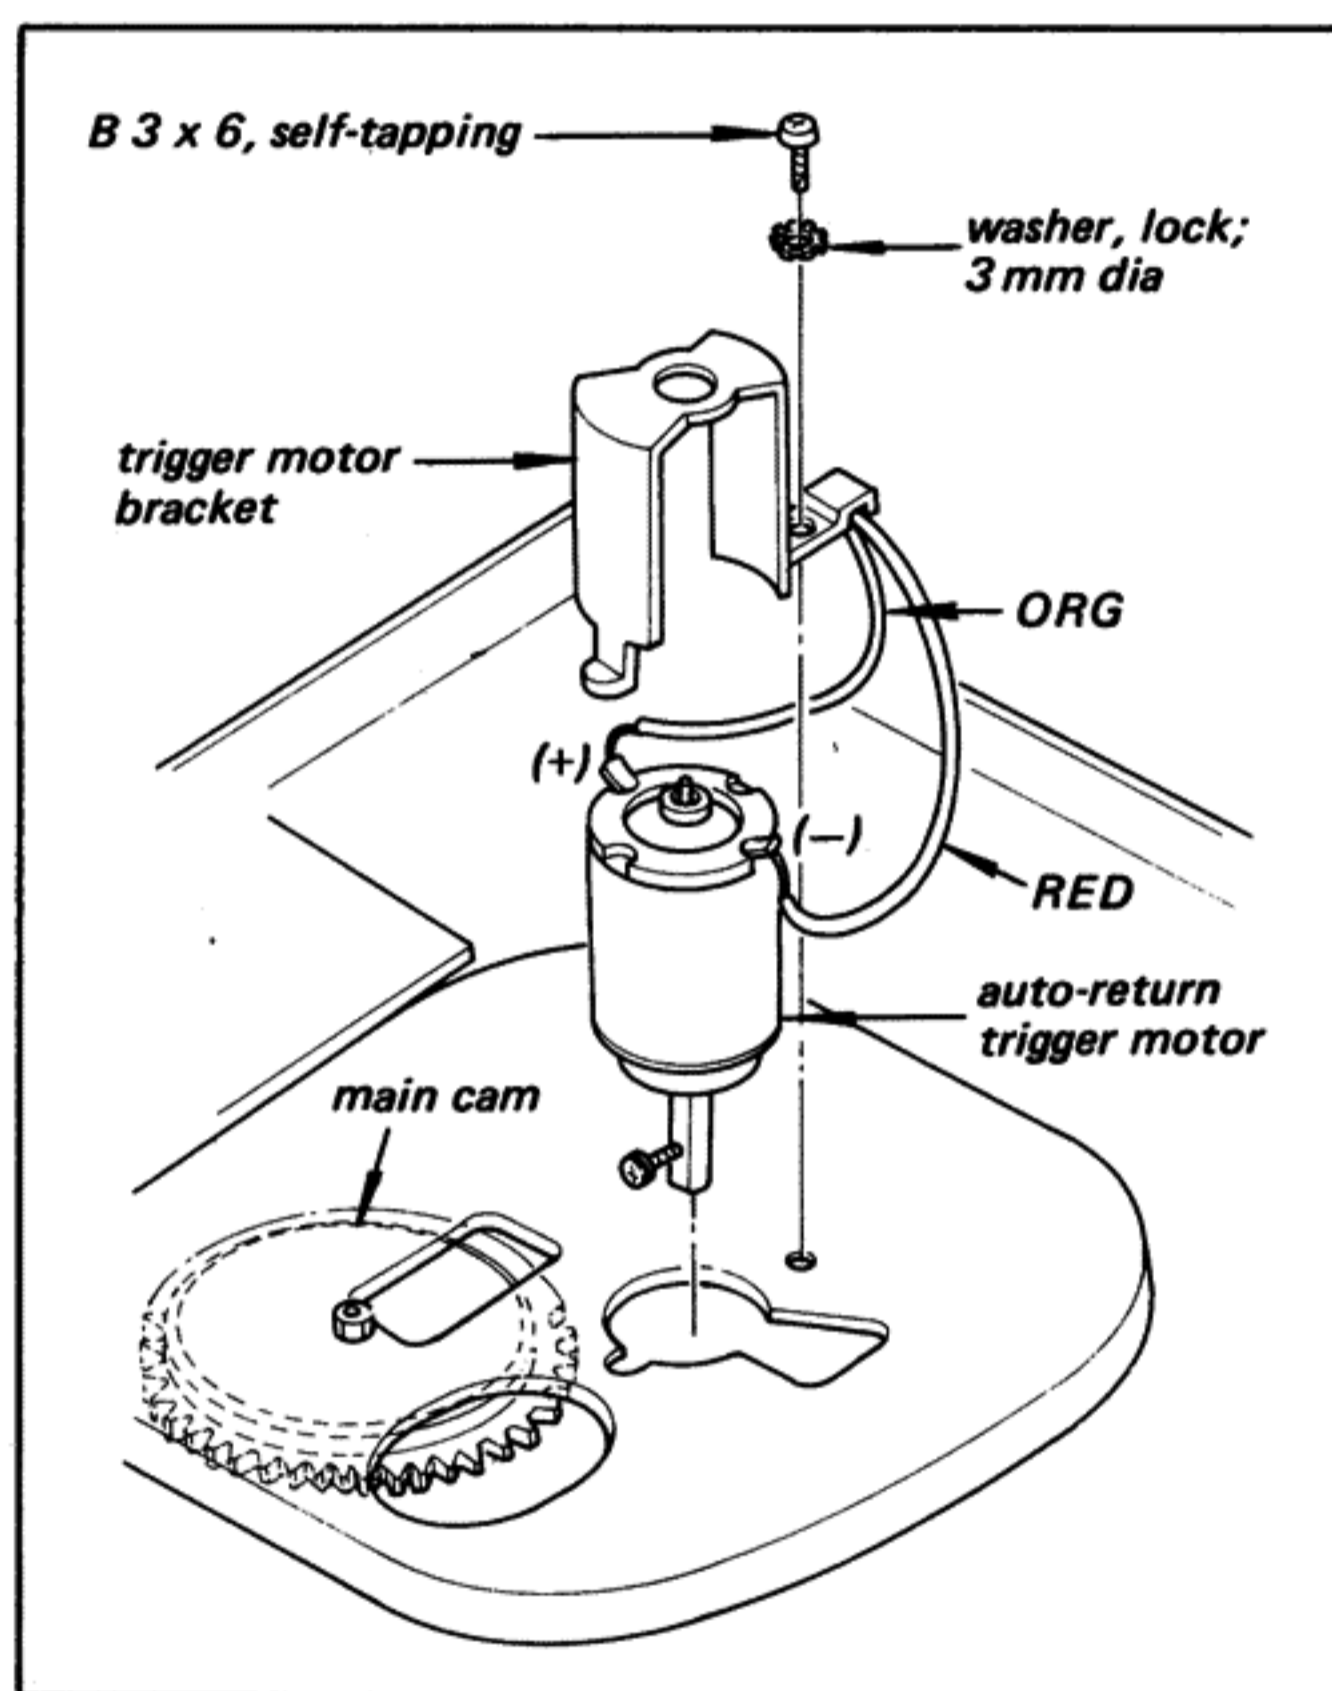

Fig. 2-11. Auto-return trigger motor replacement
- Unsolder the two lead wires at the terminals of the motor as shown in Fig. 2-11.
- Remove the trigger motor bracket by removing the screw (B 3 x 6, self-tapping) shown in Fig. 2-11. This frees the motor.
- When installing the motor, be careful to the polarity of the motor as shown in Fig. 2-11.